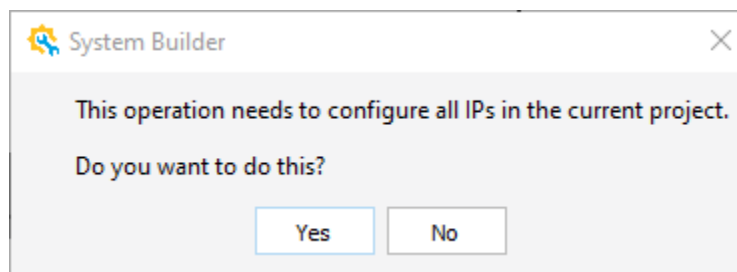

Figure 2.149. System Builder Dialog
3. Click **OK**. The System Builder dialog (Figure 2.149) pops up showing a message of configuring all IPs.